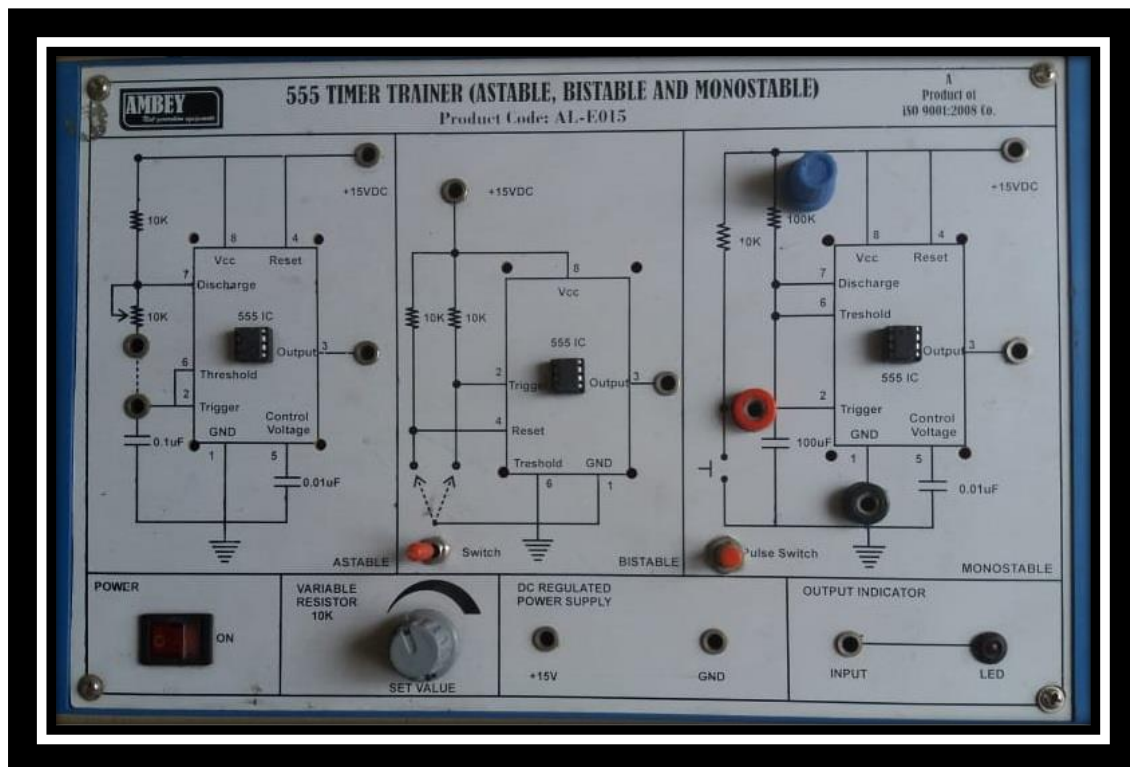

Figure 7.2: Trainer Board for 555 Timer in Astable, Bistable and Monostable mode.
1. On the trainer board, as shown in Figure 7.2, the solid lines signify the connections already made; whereas dotted lines are used to indicate the connections which can be made using connecting wires.
2. Make the connection as shown in Figure 7.2 by connecting +15V DC supply with the regulated power supply and output Pin 3 with an LED input.
1. Make the connection as shown in Figure 7.2 by connecting +15V DC supply with the regulated power supply and output Pin 3 with an LED input.